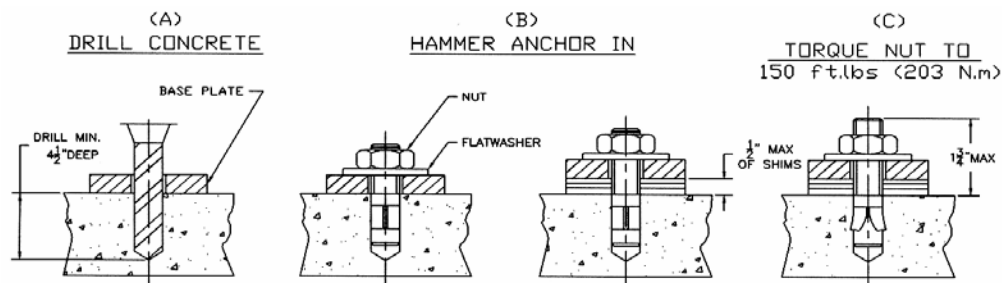

Figure 16 – Anchor Bolts
3. Refer to Bay Layout (**Figure 3**) to ensure that the column is still in the proper position. Using a rotary hammer drill with a 3/4" masonry drill bit, drill holes in the floor on the high side column using the tower baseplate as a template. Make sure that the 3/4" masonry drill is in good condition (**Figure 16**).
4. Carefully clean out drilling dust from the anchor holes. Hammer in the anchor bolts (**Figure 16**). Hand tighten all anchor bolts.
6. Torque all anchor bolts to 150 ft-lbs. (203 Nm), continually checking that the column is level as you proceed. If anchor bolts do not tighten to 150 ft-lbs. OR project more than 1 3/4" above the concrete surface (**Figure 16**), the concrete MUST be replaced by an appropriate concrete pad. (*Consult Product Manufacturer / Supplier for further details*).
2. Refer to Bay Layout (**Figure 3**) to ensure that the column is still in the proper position. Using a rotary hammer drill with a 3/4" masonry drill bit, drill holes in the floor on the low side column using the tower baseplate as a template. Make sure that the 3/4" masonry drill is in good condition (**Figure 16**).
3. Carefully clean out drilling dust from the anchor holes. Hammer in the anchor bolts (**Figure 16**). Hand tighten all anchor bolts.
5. Torque all anchor bolts to 150 ft-lbs. (203 Nm), continually checking that the crossmember and column are level as you proceed. If anchor bolts do not tighten to 150 ft-lbs. OR project more than 1 3/4" above the concrete surface (**Figure 16**), the concrete MUST be replaced by an appropriate concrete pad. (*Consult Product Manufacturer / Supplier for further details*).